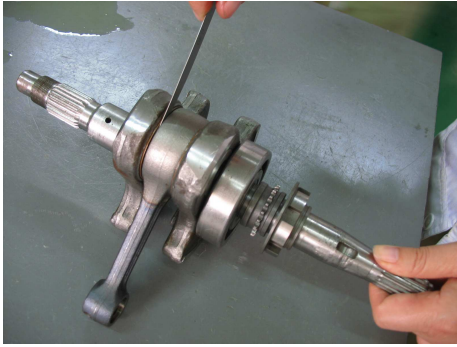
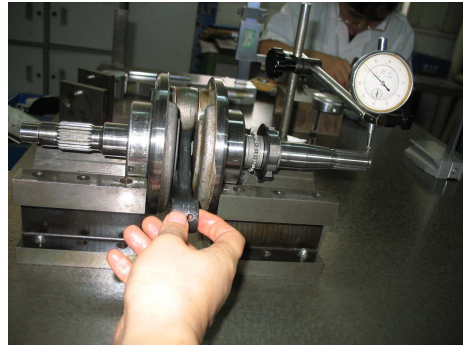

Figure 2-12-1
Figure 2-12-2
0.05mm. If not so, replace it. See figure 2-12-1, figure 2-12-2.